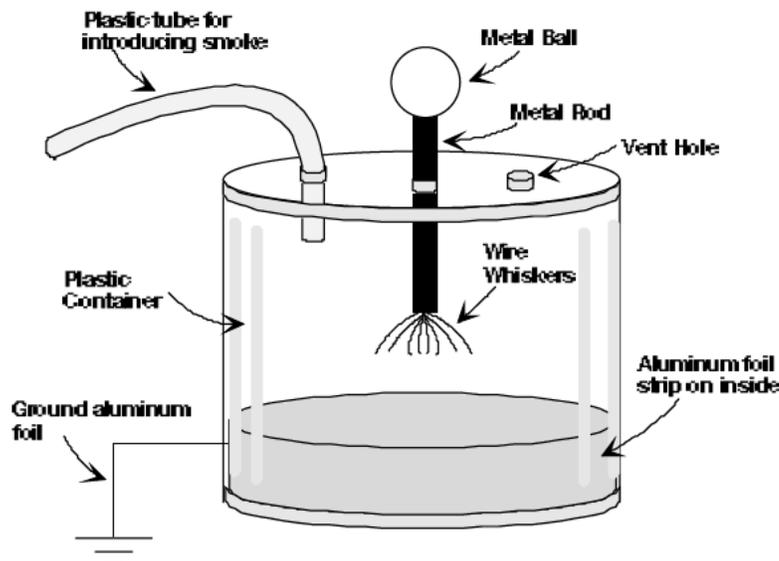

Fig. 40 - Smog Eater
10. Smog Eater: You can demonstrate the principle of electrostatic precipitation with the "Smog Eater." Take a large glass or plastic container and insert a metal rod with copper wire "whiskers" (Fig. 40). Glue a strip of aluminum foil to the inside of the jar and run a ground wire through the jar to the foil, as shown. Introduce smoke from a cigarette (sorry!) or some other source through the plastic tube. Connect a wire between the Collector and the rod, or simply bring the jar close to the Collector. Turn on the generator and, voilá, the smoke disappears. The rod charges the smoke molecules, which are repelled from the rod and deposited on the aluminum foil.